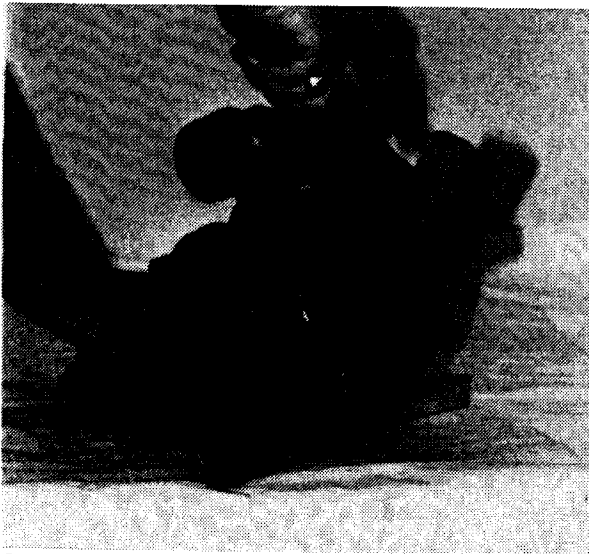

FIG. 11
13. As a final check, measure distance from end of ring to bottom of impeller vanes. This should be $\frac{3}{32}$ " to $\frac{1}{8}$ ". If distance is only $\frac{1}{16}$ " or less it will indicate pump impeller has partially unscrewed when grinder impeller was removed. See Figures 9 and 10. If this is the case, pump case will have to be removed to tighten pump impeller. These steps will be given in the following instructions. In rare cases if the impeller is jammed so tight it can't be removed by the steps given it will be necessary to remove the motor housing so that the motor rotor can be gripped to break loose the grinder impeller. See Figure 11.